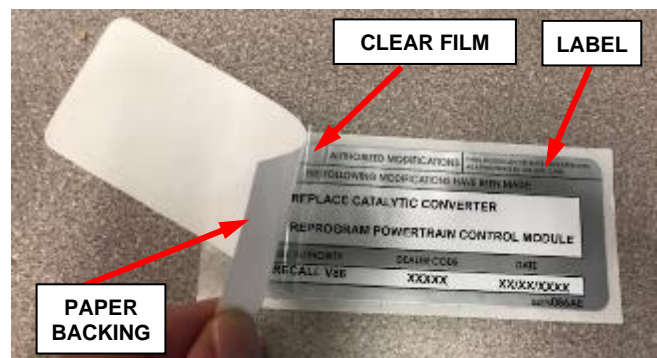

Figure 64 – Apply Clear Film
2. Remove the paper backing from the clear film on the front of the authorized modifications label then carefully apply the clear film over the front of the authorized modifications label (Figure 64).